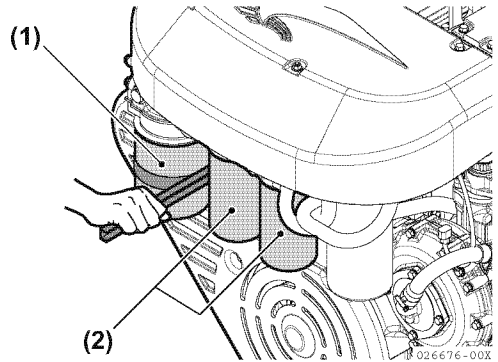

Figure 2
3. Turn the engine oil filters ((**Figure 2, (1)**) and (**Figure 2, (2)**)) counterclockwise with a filter wrench.